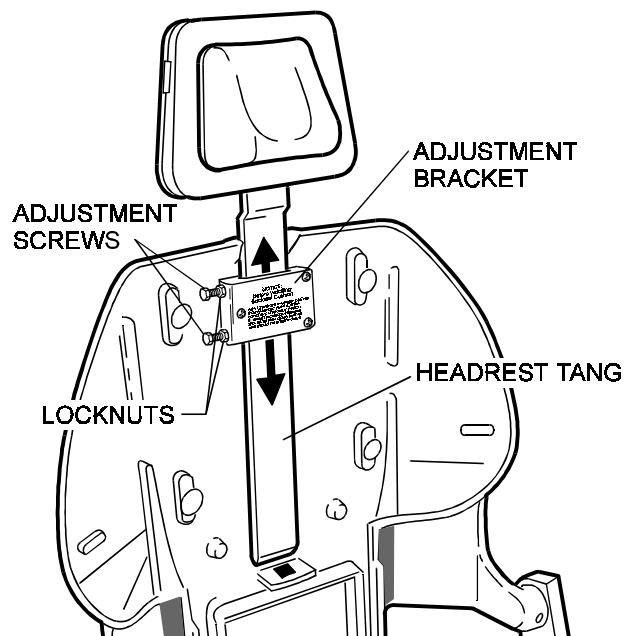

**Figure 7**
2. Insert the headrest tang in the slot and adjustment bracket at the top of the chair back (See Figure 7). When properly adjusted, the headrest should move freely up and down, but should not move on its own.
- 2) Then, loosen or tighten the adjustment screws to achieve the desired tension and re-tighten the locknuts (Figure 7).